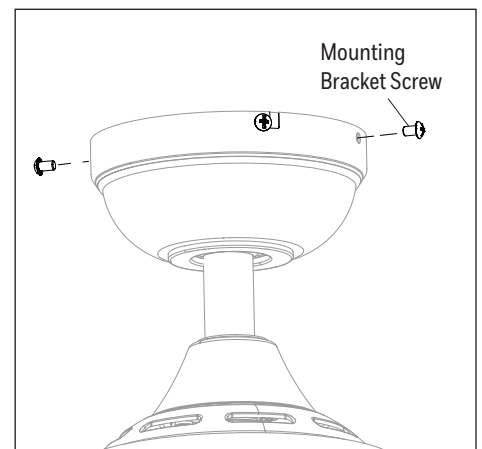

Figure 5.3
3. Raise the canopy, ensure the two mounting bracket screws are aligned with the J-shaped slots in the canopy. Then turn the canopy in a clockwise direction until the mounting bracket screws are completely engaged in the J-shaped slots. Then, install the two previously removed mounting bracket screws in the round holes. Securely tighten all mounting bracket screws (Figure 5.3).